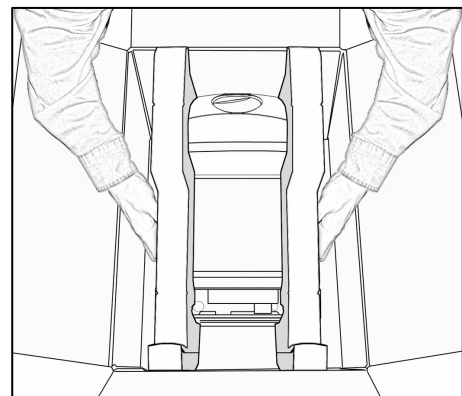

Figure 13
5. Lift the MS2220 scanner out of the box by carefully grasping both sides near the center of the unit and lifting directly up. Refer to Figure 13 for hand placement.